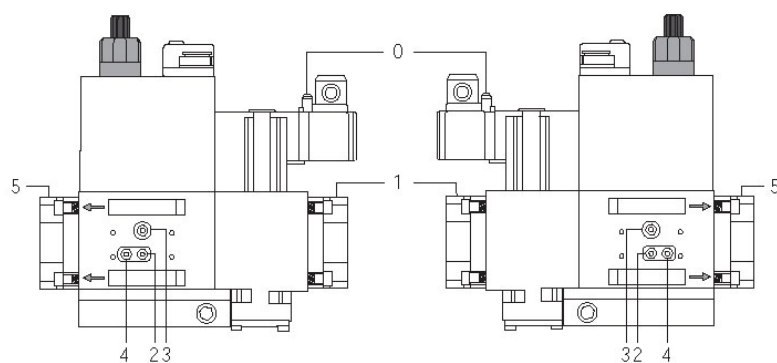
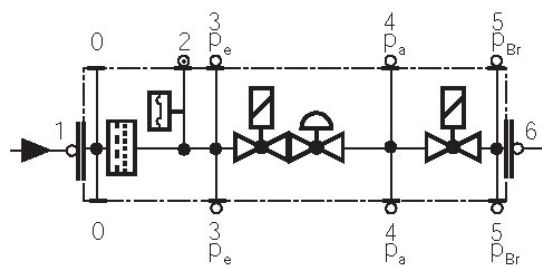

Fig. 58
Fig. 59
- Change the filter if the pressure difference between pressure connection 1 and 2 (Fig. 58-Fig. 59) $\Delta p > 10$ mbar.
- Change the filter if the pressure difference between pressure connection 1 and 2 (Fig. 58-Fig. 59) is twice as high compared to the last check.